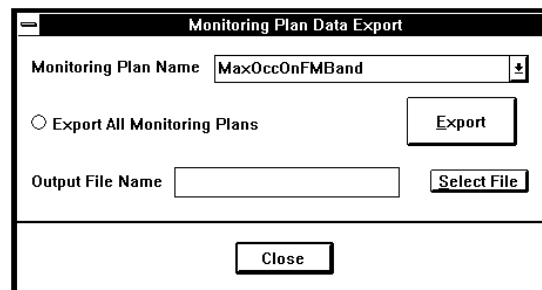

Figure 9-2: Monitoring Plan Data Export Dialog Box
1. Select **Monitoring Plan...** from the Export Data selection list to open the **Monitoring Plan Data Export** dialog box (Figure 9-2).